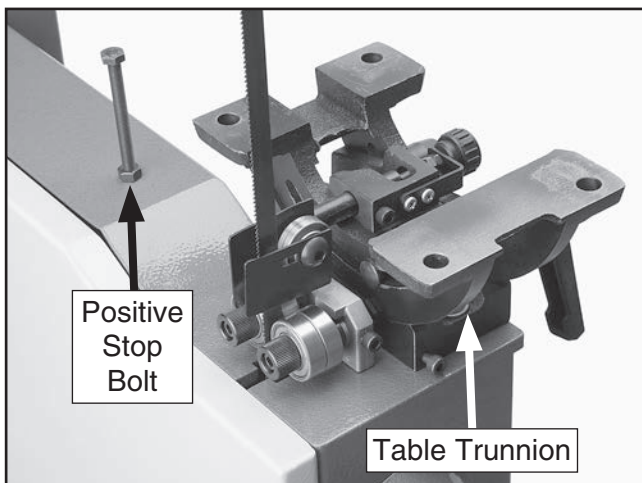

Figure 8. Positive stop bolt installed.
2. Thread the M8-1.25 x 100 hex bolt (otherwise known as the "Positive Stop Bolt") into the casting near the trunnion base, as shown in **Figure 8**.